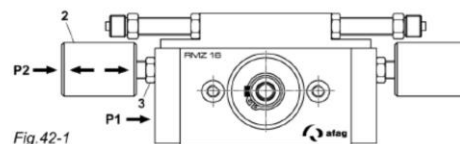

Fig. 42-1
3. Move the intermediate position cylinder (2) to the desired position by screwing it in or out and secure it with the lock nut (3) (Fig. 42-1).